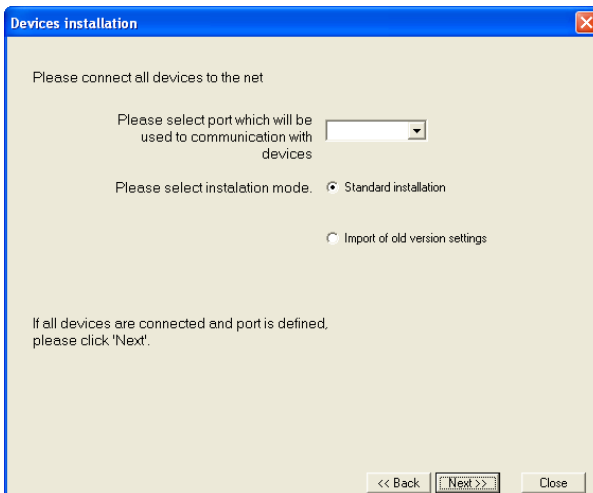

Figure 3.4. Selection of serial port
9. Next screen (Figure 3.4) enables the selection of the number for the RS 232 serial port for the converter. The number chosen for the selected port must comply with number of the port to which the converter is connected.